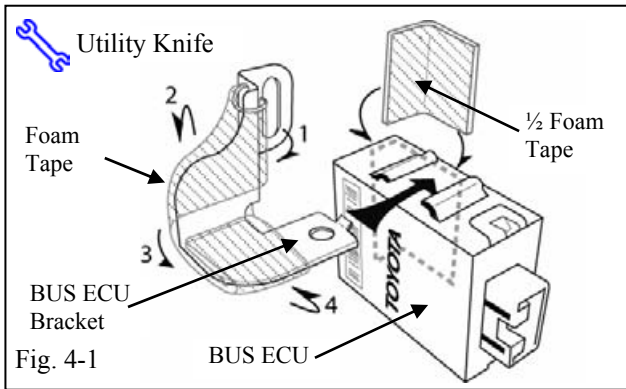

Fig. 4-1
(a) Cut 1 piece of Foam Tape in half. Apply it to the BUS ECU as shown. (Fig. 4-1)
(b) Use 1 piece of Foam Tape to apply to the BUS ECU Bracket as shown. (Fig. 4-1)
(c) Insert the mounting bracket into the indicated bracket slot on the BUS ECU (Fig. 4-1)
- (e) Using the Extra 1/2 of Foam Tape from Fig. 4-1 apply it to the ECU Bracket as shown.